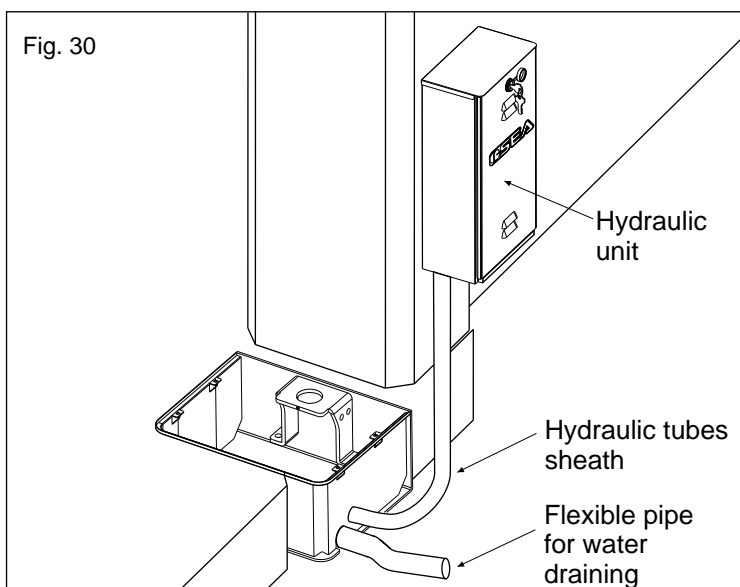

Fig. 30
- a water waste pipe in flexible plastic of about 40 mm of diameter to put inside the provided hole of the box before it is concreted (Fig. 30). **It must be brought to the drain of the sewer line;**
- a sheath of about 32 mm diameters for the passage of hydraulic tubes must be brought to the proximity of the hydraulic unit box (Fig. 30).